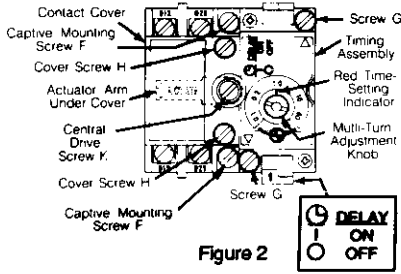

Figure 2
- 1.5 Time-delay mode is shown at lower end of timing assembly. Figure 2. If opposite mode is desired, convert per following steps.
- 2.1 Loosen the two captive slotted head screws G, identified by the symbol Δ. Figure 2. **Do not remove the Phillips head screws with black sealer.**
- 3.1 Loosen captive cover screws H and remove cover. Figure 2.